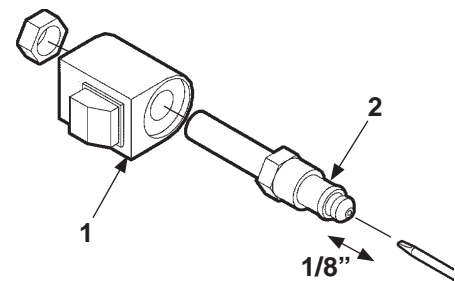

FIG. 51-2
3. Check if solenoid valve is getting power by holding a screwdriver against the top nut of the solenoid. Push control switch to "lower" position to energize solenoid (**FIG. 51-2**). A good solenoid will attract (magnetically) the screwdriver to the nut and make it difficult to pull the screwdriver away from the nut.
4. Check the valve stem by removing the coil assembly (**Item 1, FIG. 51-2**). With platform supported, unscrew the valve stem (**Item 2, FIG. 51-2**) from the pump. Push on the plunger located inside the valve stem by inserting a small screwdriver blade in the end. If the plunger does not move freely (approximately 1/8"), replace the valve stem.